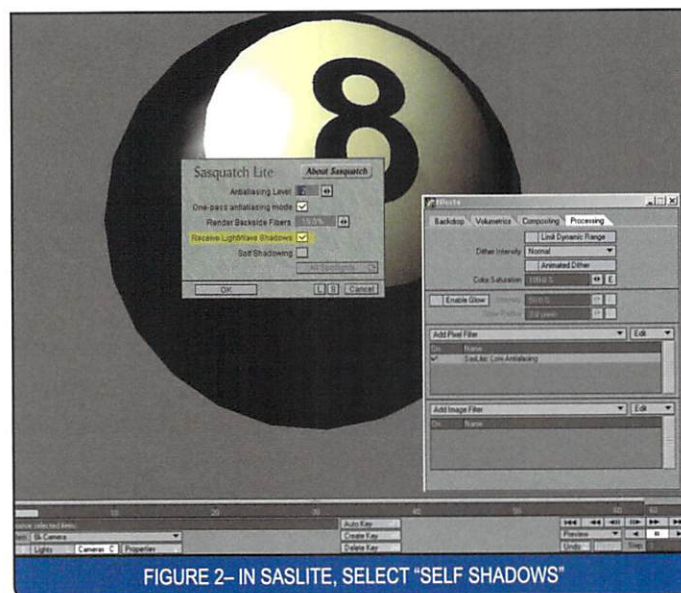

FIGURE 2—IN SASLITE, SELECT "SELF SHADOWS"
5. Double Click on the text "SasLite: Low Antialiasing" to open SasLite, and select Self Shadows, then "OK." *SEE FIGURE 2.*